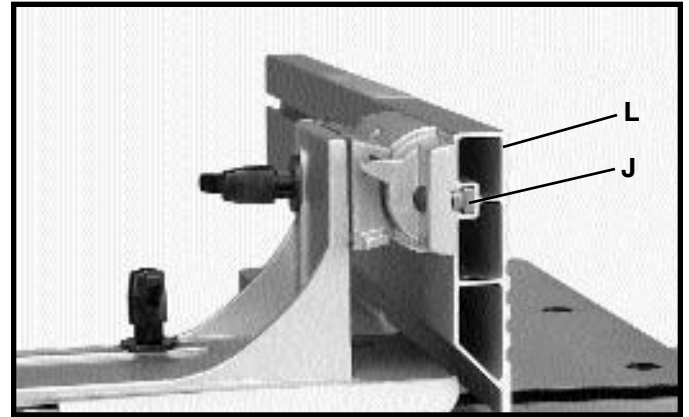

Fig. 10
4. Slide groove of fence (L) Fig. 10, over T-nuts (J) as shown.